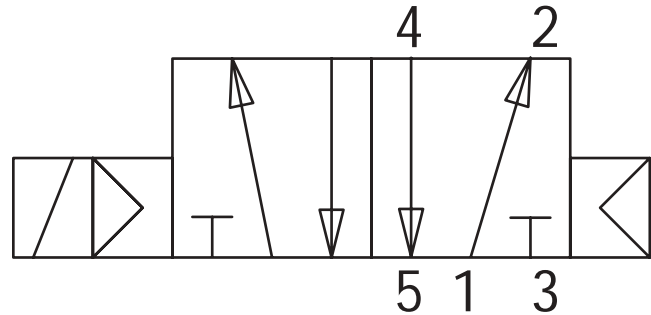
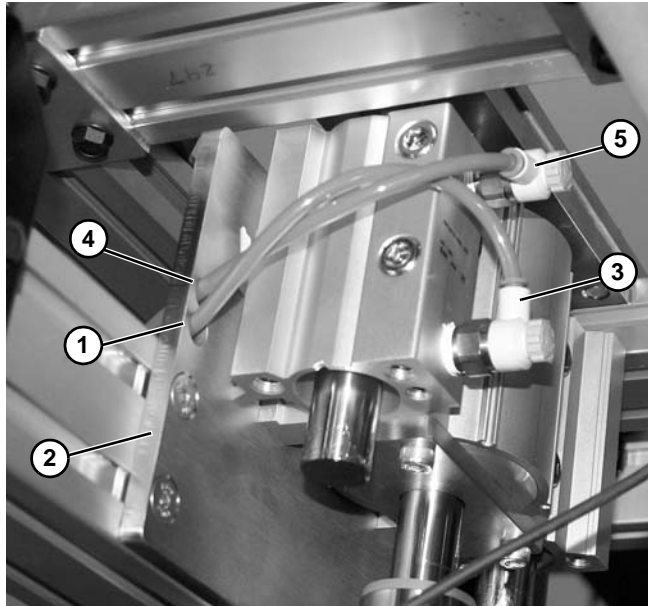

Figure 28
Figure 30
Dorner recommends using a 5-port, 2-way solenoid valve (**Figure 28**) to operate the Lift and Locate Pallet Unit.
- Connect Port 4 (Figure 28) of the 5-port 2-way solenoid through the lower opening (Figure 30, item 1) in plate (Figure 30, item 2) and to the lowest port (Figure 30, item 3) on the lift. Dorner fittings accept 1/4" outside diameter tubing standard.
- Connect Port 2 (Figure 28) of the 5-port, 2-way solenoid through the upper opening (Figure 30, item 4) in plate (Figure 30, item 2) to the upper port (Figure 30, item 5) on the lift. Dorner fittings accept 1/4" outside diameter tubing standard.